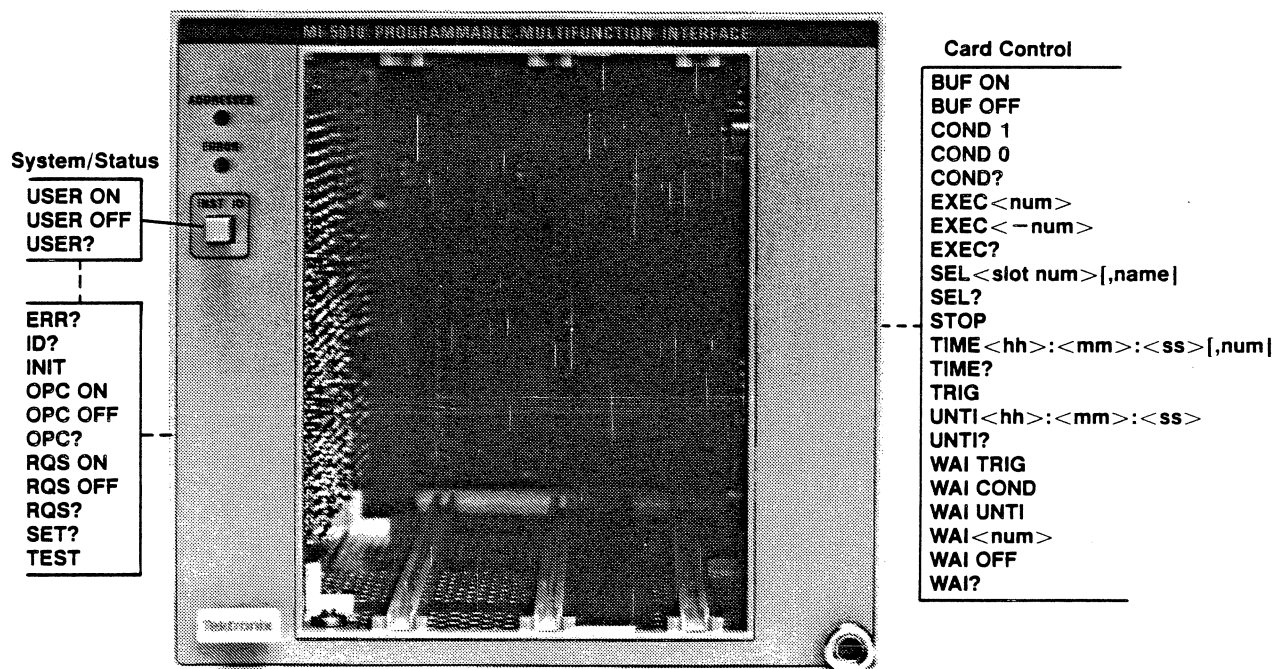

Fig. 3-1. Front panel with command list.
- A front panel illustration—showing command relationships to front panel controls (if any), plus a non-descriptive list of all commands related to internal parameters. See Fig. 3-1.